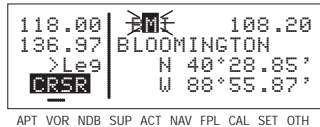

Figure 4-69
4. Move the cursor to the second character and select "M" (figure 4-69). Eureka! When you entered the "M", the KLX 135 searched its data base for the first VOR identifier beginning with the letters "BM" and found **BMI**. Many times you will only have to enter two or three characters of the waypoint identifier and the KLX 135 will furnish the rest.